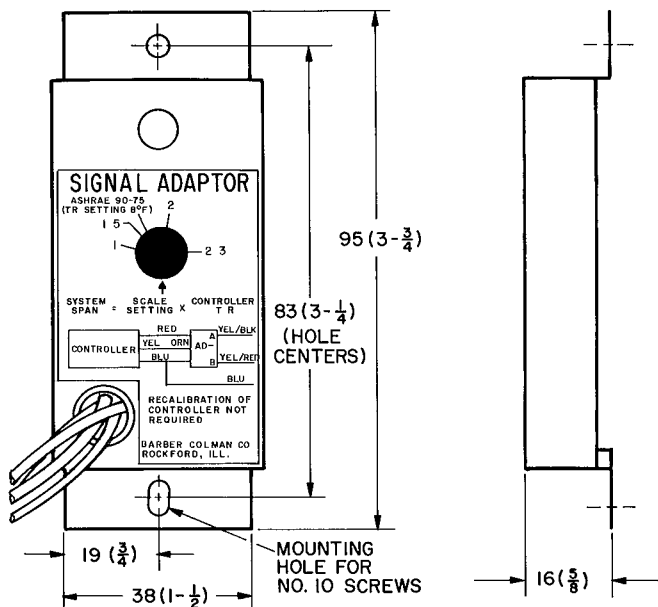

Fig. 8 — Signal Adaptor Module
- Signal Adaptor Module (SA1): The mark on dial of signal adaptor module should be set at 1 (See Fig. 8).